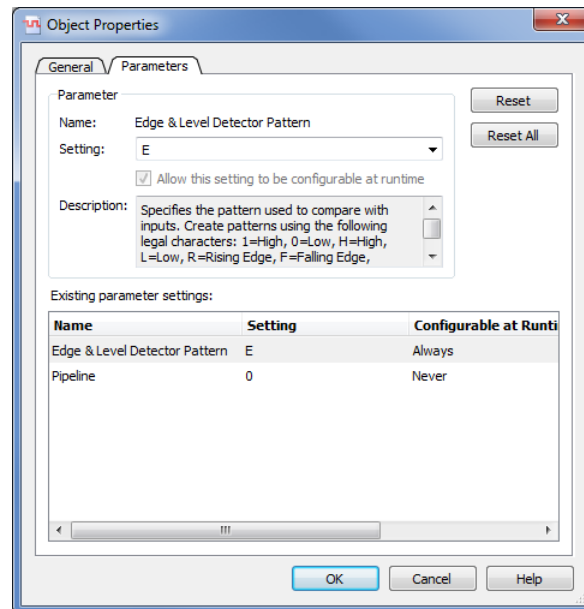

Figure 22. Type E in the setting box so that the function triggers on both rising and falling edges.
7. We now need to set each edge and level detector to sense either a falling edge or a rising edge. Double click one of the edge and level detectors, bringing up the window in Figure 22. Type E in the setting box and then click OK. This will mean that the detector will output 1 whenever there is either a falling edge or a rising edge of its input. Repeat this step for the two remaining edge and level detectors.